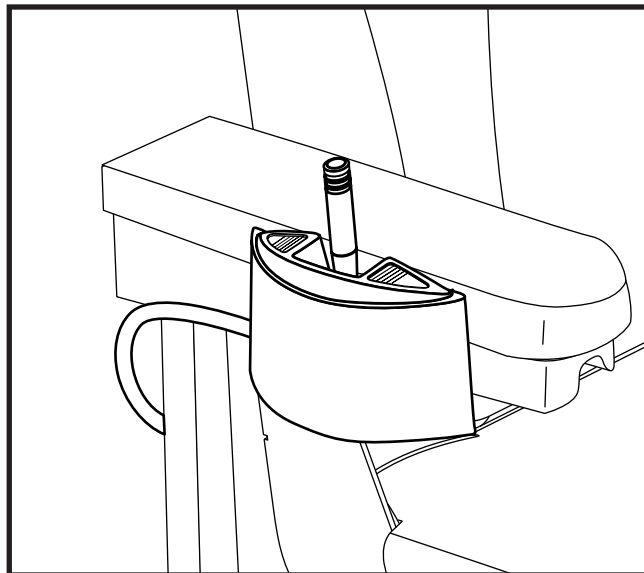

Figure 18. Power Seat Toggle Switch
1. Press forward on the toggle switch to raise the seat. See figure 18.